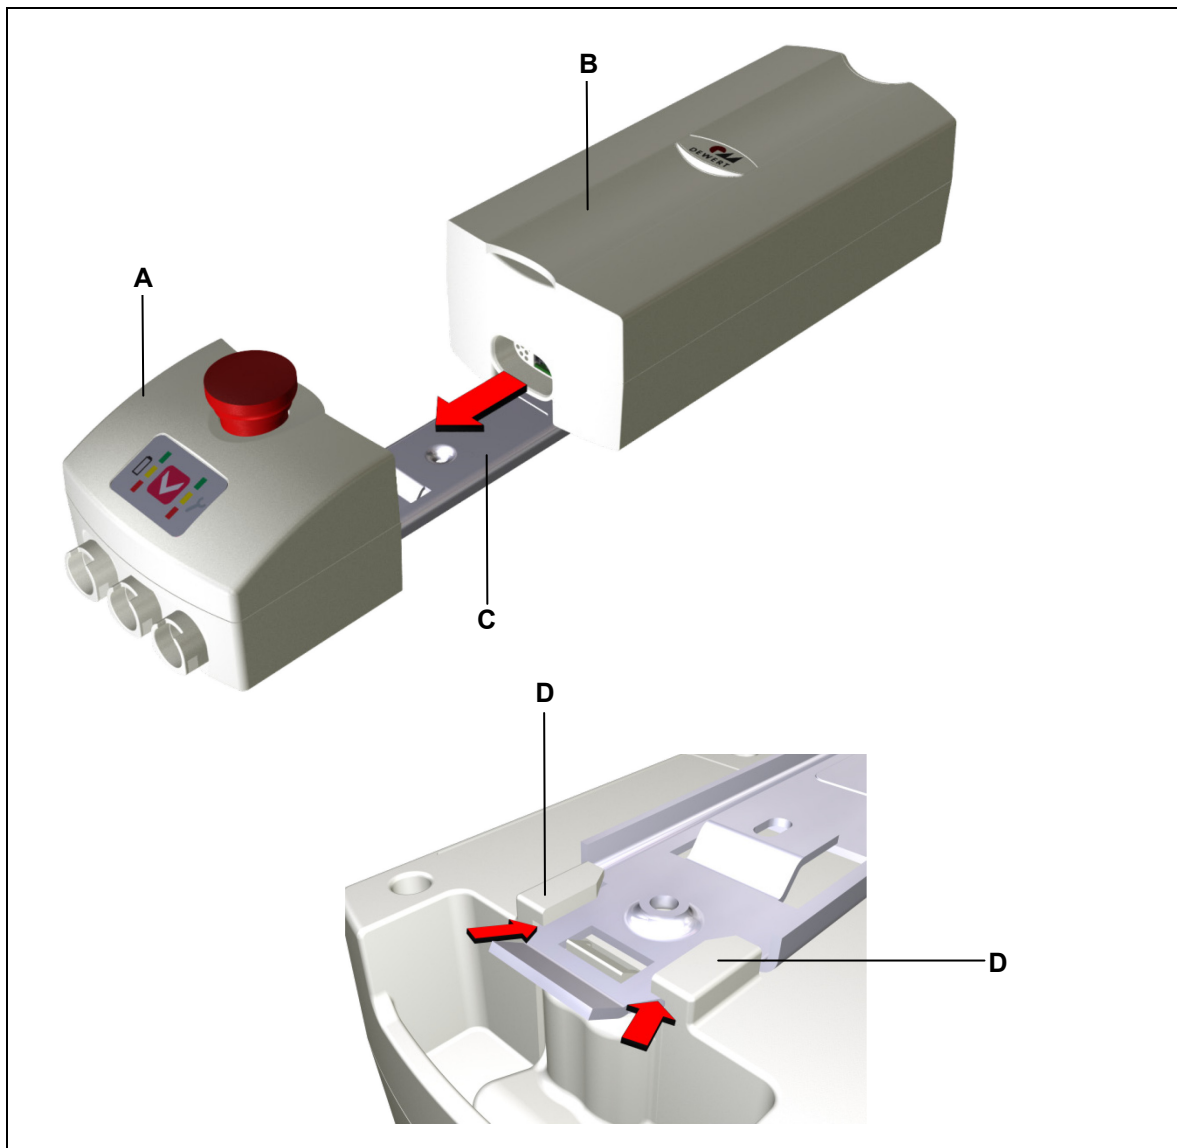

Figure 13 Inserting the ACCU in the CONTROL
- 2 Slide the ACCU on the mounting rail (as shown in Figure 13) until it clicks into place. The housing guide tabs (**D**) must enclose the mounting rail to ensure a tight fit.